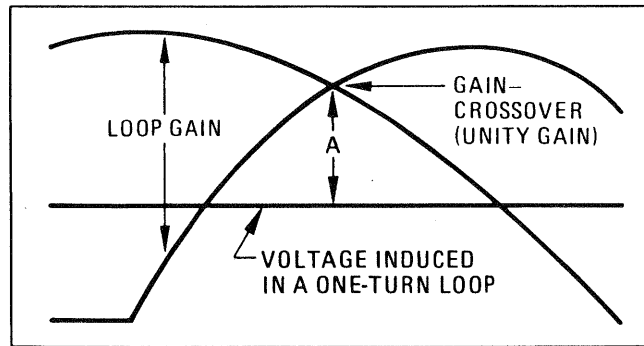

Figure 5-13. Spectrum Analyzer Display of Phase Locked Loop Gain
6. Press the SINGLE sweep key. Check that the gain-crossover frequency is 20 ± 2 kHz. If the gain-crossover frequency is not correct, A3A9A4R20 must be changed to set the correct frequency; otherwise, this adjustment is complete. See Figure 5-13.